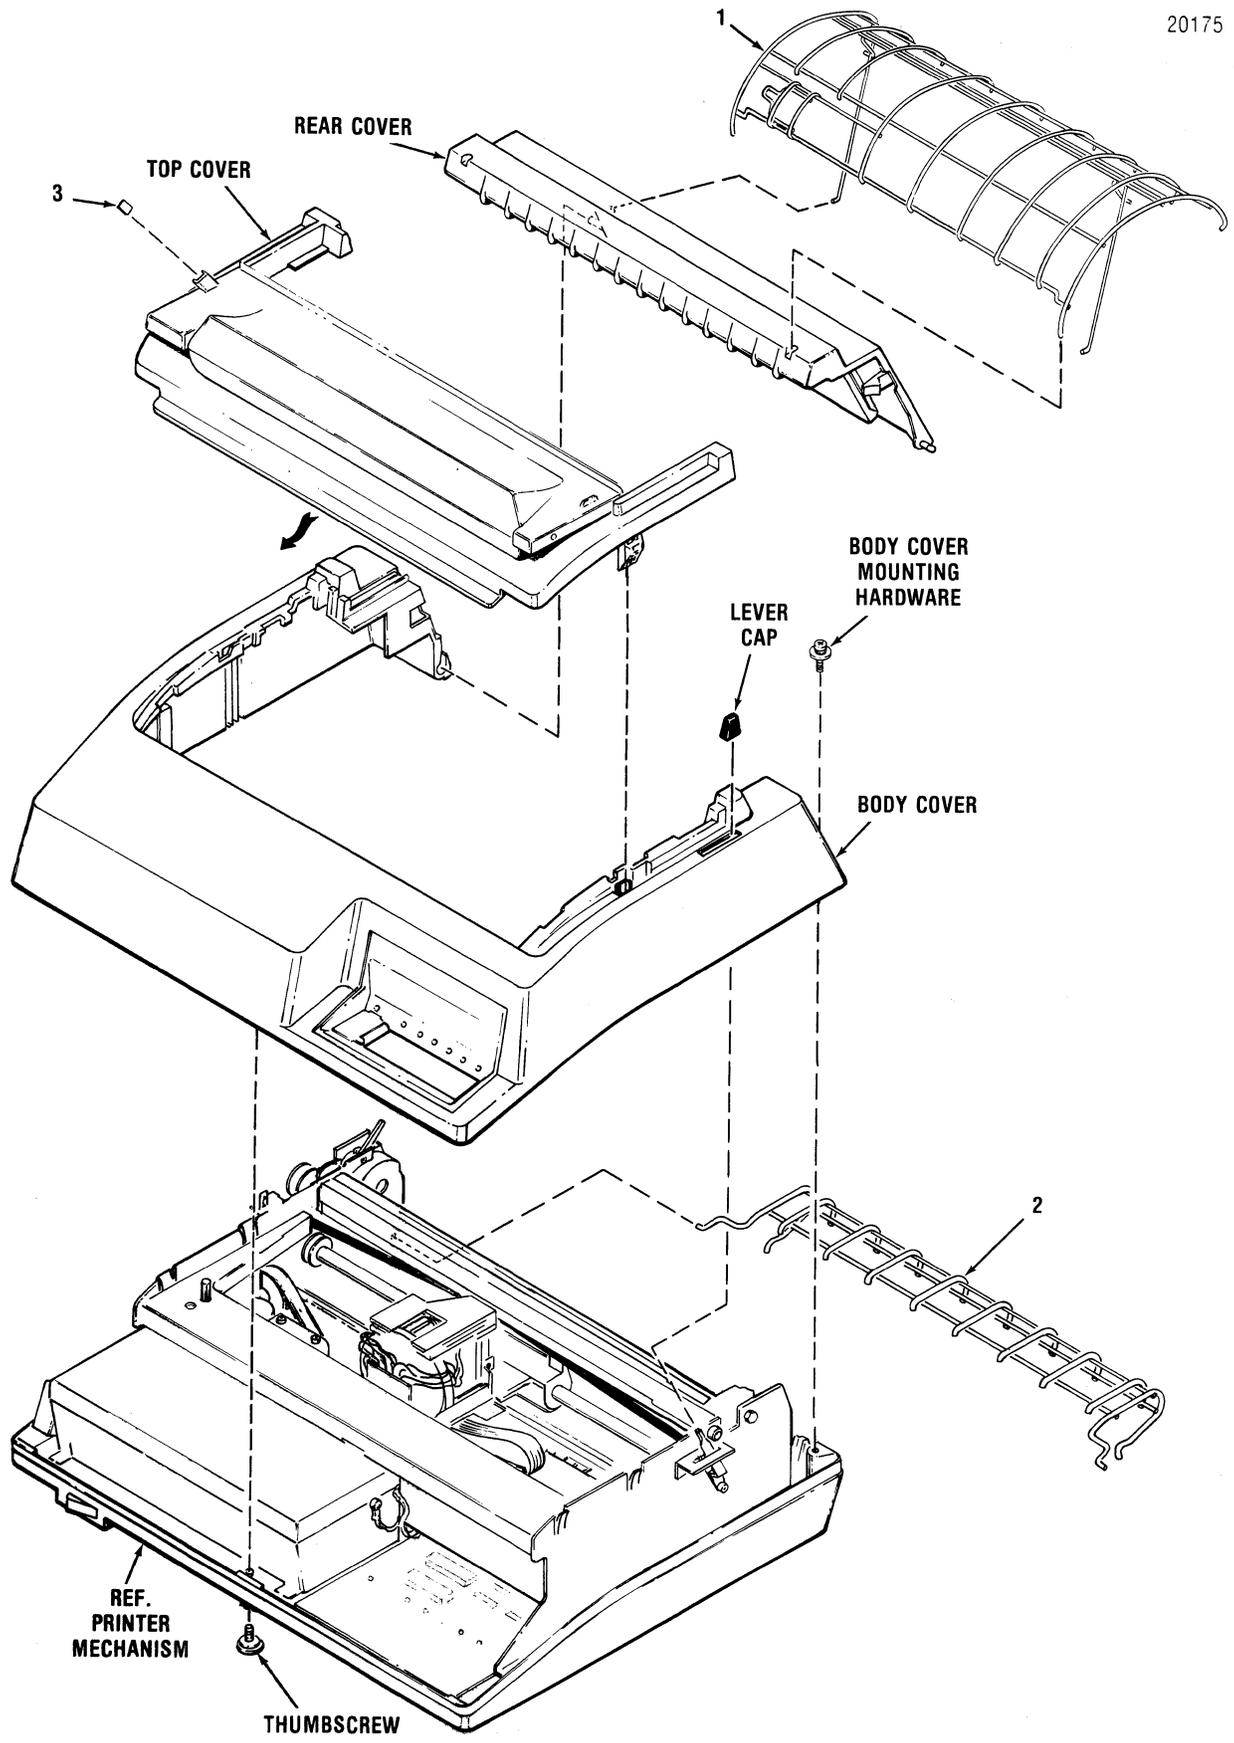

Figure 5-1. REMOVAL/REPLACEMENT PAPER RACK OUTLET ASSEMBLY, PAPER RACK INLET, COVER ASSEMBLIES AND COVER INTERLOCK MAGNET
The paper rack outlet assembly, item 1 of Figure 5-1, attaches to the rear cover and guides the printed forms over the printer and into the paper basket. To remove the paper rack outlet assembly, refer to Figure 5-1 and perform the following steps:
2. Lift the paper rack (1) from the two mounting holes on top of the rear cover and remove rack from printer.
The paper rack inlet, item 2 of Figure 5-1, attaches to the rear of the printer and guides the forms into the paper feed mechanism. To remove the paper rack inlet, refer to Figure 5-1 and perform the following steps.
2. Pull the paper rack inlet (2) straight out and remove rack from printer.
The covers protect the print mechanism and printed circuit boards and are removed using a Phillips head screwdriver. To remove the covers, refer to Figure 5-1 and perform the following steps:
The cover interlock magnet, item 3 of Figure 5-1, is located underneath the left side of the top cover. To replace the magnet, refer to Figure 5-1 and perform the following steps:
2. Place a small amount of adhesive onto one side of the magnet (3) to be installed.